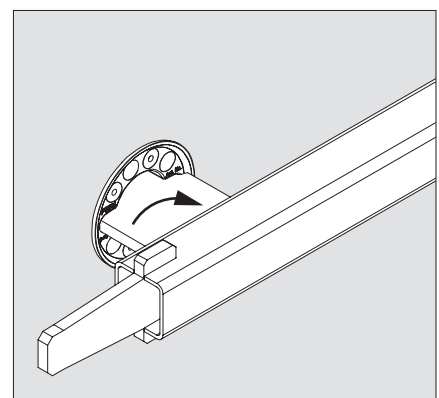

Fig. A6.17d
5. Turn the Magnetic Cone Spanner MX15/18 (57). (Fig. A6.17d)